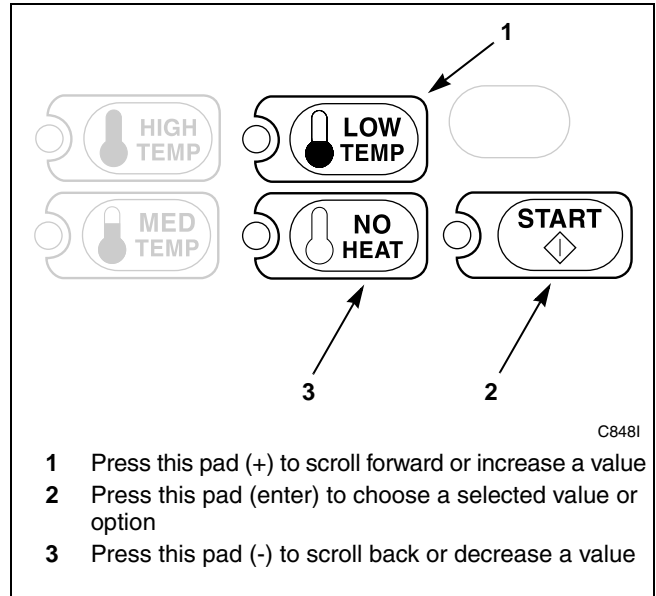

Figure 89
5. Press the LOW TEMP (+) or the NO HEAT (-) keypad to increase or decrease the current number of seconds displayed in the VFD to the desired number of seconds. Refer to *Figure 89*.
**NOTE: Special Vend A Coin #1 TopOff Seconds can be set from zero (0) to 59 seconds.**